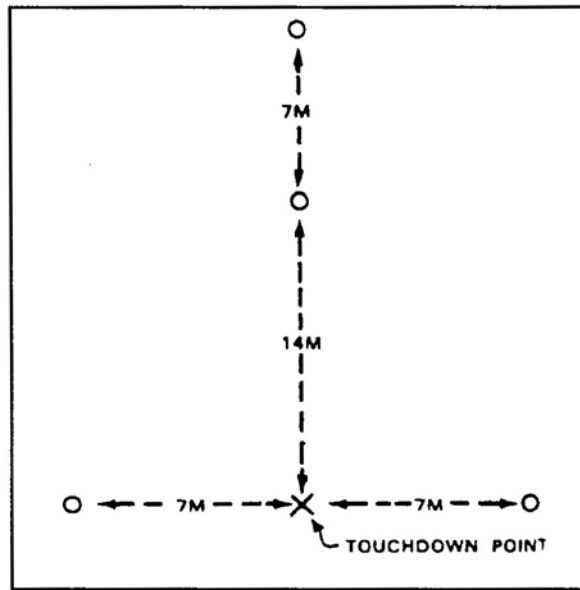

Figure 3. Landing site marked at night.
- b. At night, the landing site and touchdown points are marked by an inverted "Y" composed of four lights. Strobe lights, flashlights, or vehicle lights may also be used to mark the landing site. The marking system used will be fully explained to the pilot when contact is made (Figure 3).